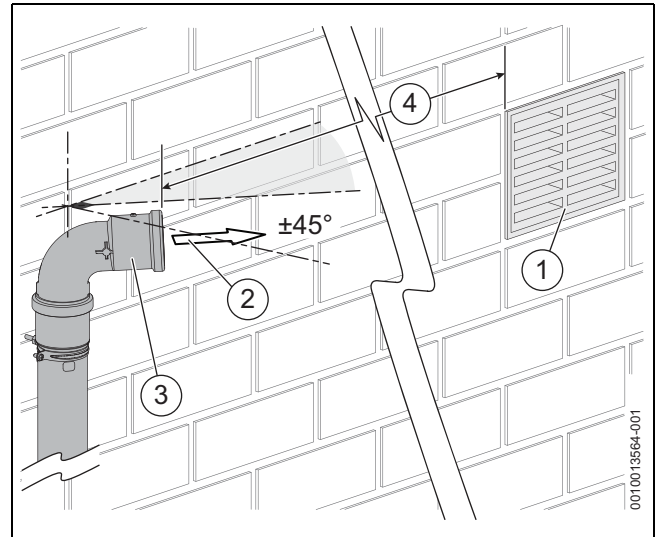

Fig. 60 Plume direction conditions
- ▶ The Plume terminal outlet position must follow the conditions stated in figure 60. When redirecting the flue discharge the outlet must be at least 1,500mm from and angle at least 45° away from any opening in the direction of the discharge, as shown. This is to prevent combustion products from entering the building.